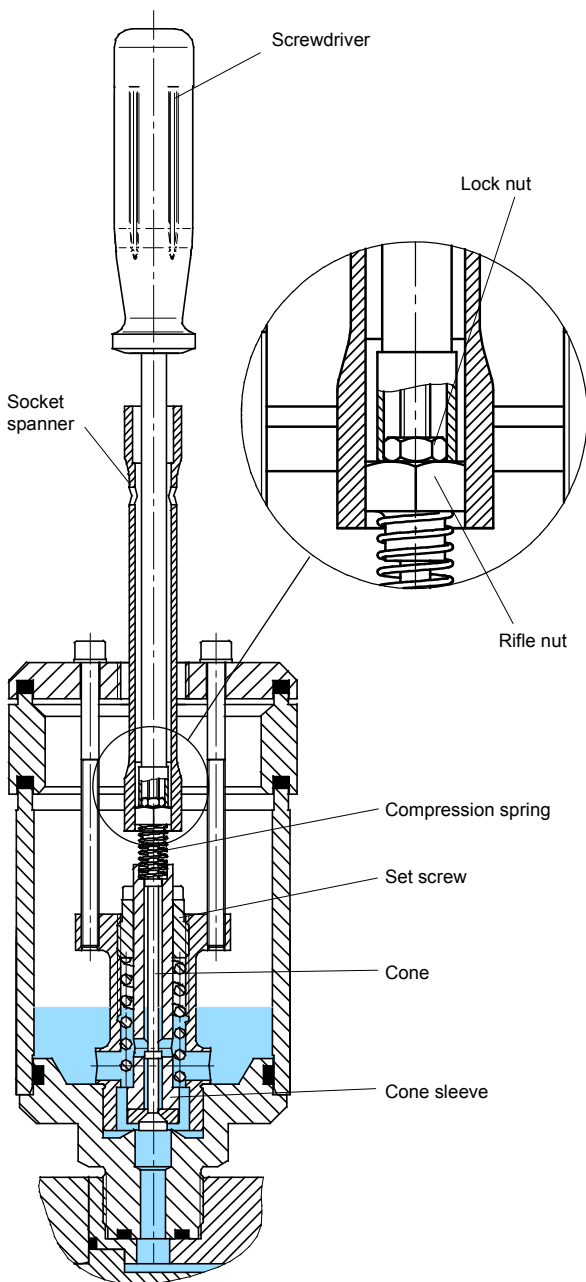

Fig. 44
- Put smaller socket spanner through bigger socket spanner, loosen lock nut and remove socket spanner (see Fig 44).